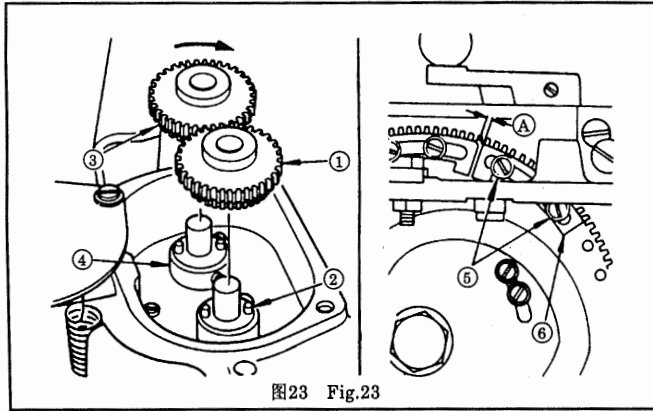

图23 Fig.23
* 齿轮的安装 图23
- 1) 先将齿轮①插进蜗轮轴里和靠近操作者一侧的交换齿轮挡圈②上的定位销内。
- 2) 再将齿轮③一边按箭头方向旋转, 一边插进离操作者远的交换齿轮挡圈④上的定位销内和送料凸轮传动轴里。
*** Attaching the spur gears to their shafts** Fig.23
- 1) Push gear ① into the shaft so that it is securely fixed by the pin on gear bushing ② located nearer to an operator.
- 2) For installing gear ③ on the pin of rear gear bushing ④, push gear ③ into the shaft while turning it in the arrow direction.